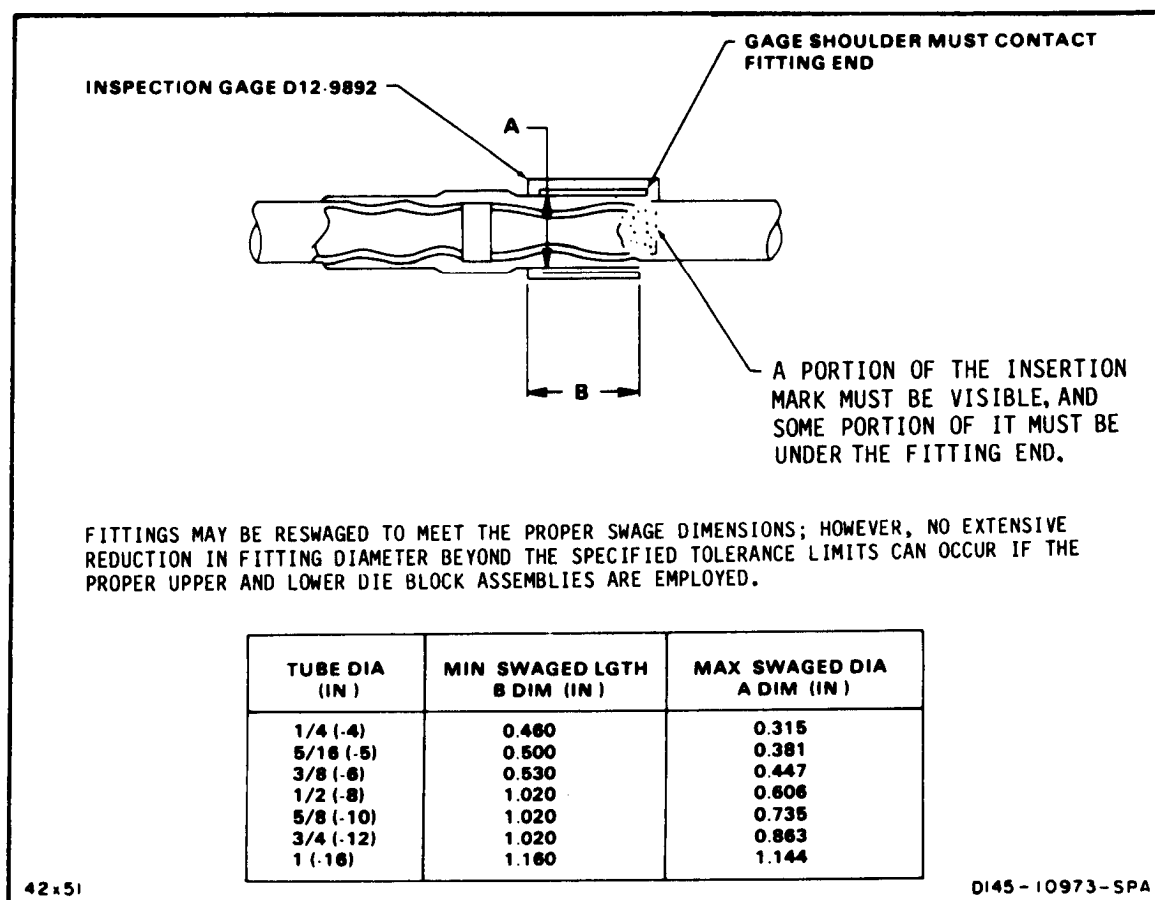

Figure 2-10. Measuring after-swage dimensions.
30. Inspect the swaged end with the appropriate size go/no-go inspection gage according to the illustration in Figure 2-10. The fitting may be reswaged only once if the gage does not fit (repeat steps 24 through 30).